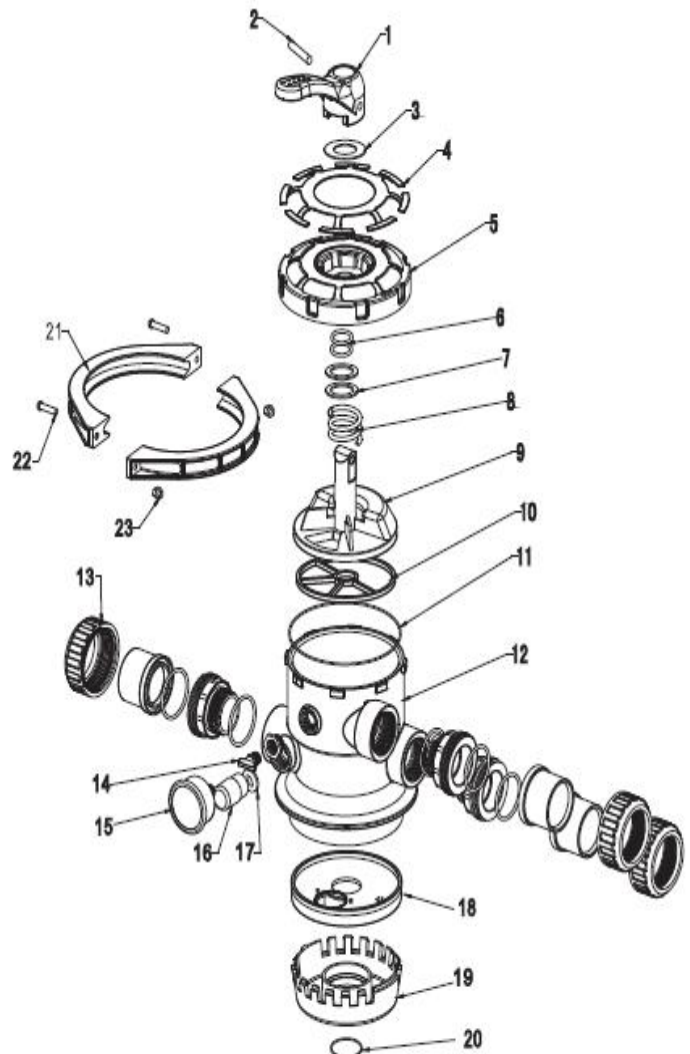

Figure 3
2. Item No.7-Washer for spring is damaged.	2. Replace item No.7 washer for spring.(Please see Figure 3)
2. If it was damaged please replace it.(See Figure 3, Item No.10-Spider Gasket).